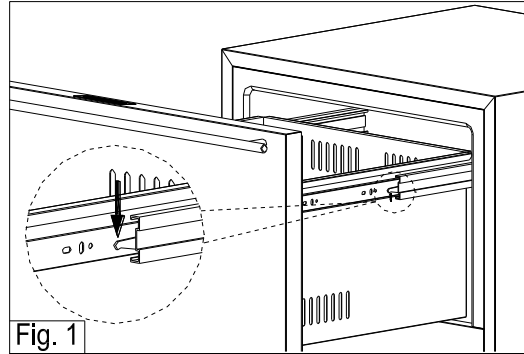

Fig. 1
- Remove any items stored inside the drawers. Press the right slide release lever down and at the same time lift the corresponding left slide lever up and pull the drawer out until it is free of tracks and the cabinet. (Fig. 1)